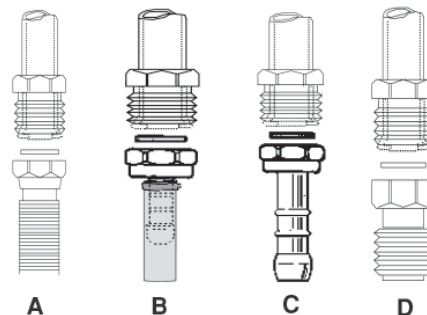

Figura 15
• RACCORDO CON TUBO METALLICO FLESSIBILE (FIGURA 15 DISEGNO A)
• RACCORDO CON TUBO IN GOMMA (FIGURA 15 DISEGNO B E C)